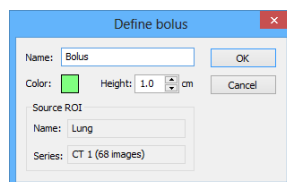

Figure 276 – Define bolus dialog
3. The **Define bolus** dialog (see Figure 276) is then displayed in which you carry out the following: